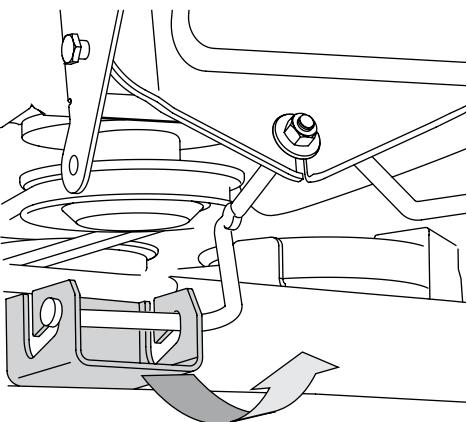

Figure 4-13
8. On 38" decks, gently slide the cutting deck toward the front of the tractor carefully guiding the hooks on the deck off of the deck stabilizer rod. See Figure 4-13.